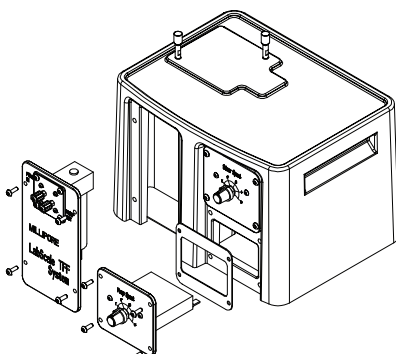

Figure 20: Labscale Pump Module installation
3. Secure the pump panel and pump speed control panel into the base as shown in figure 20.